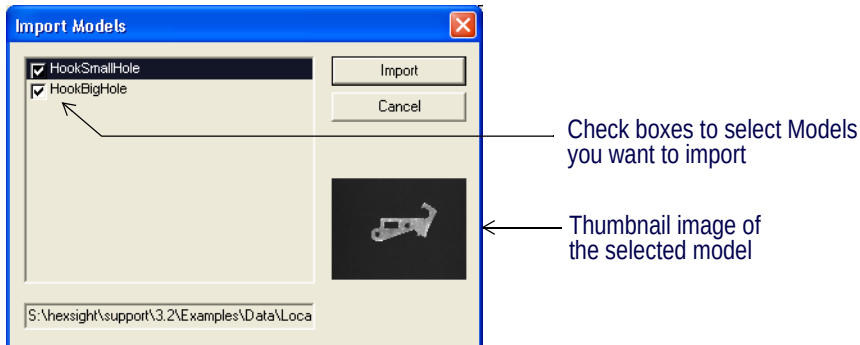

Figure 175 Importing Models
- Use **Import...** to import selected files into the current Model database through the Import Models dialog (Figure 175). Formats that are supported for importing are hdb (HexSight database), hig (HexSight image), bmp and dxf.